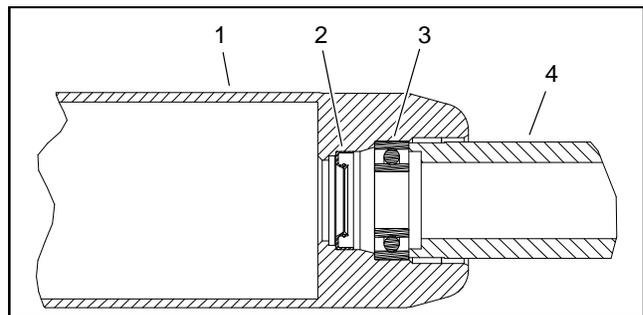

Figure 14
A. Position a new bearing into one end of roller tube. Use bearing/outer seal tool (see Special Tools in this chapter) with a soft face hammer to fully seat bearing against roller shoulder (Fig. 14). After bearing installation, make sure that it rotates freely with no binding.